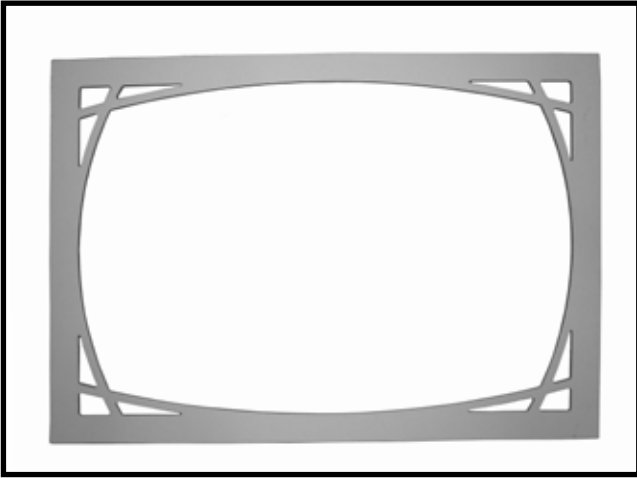
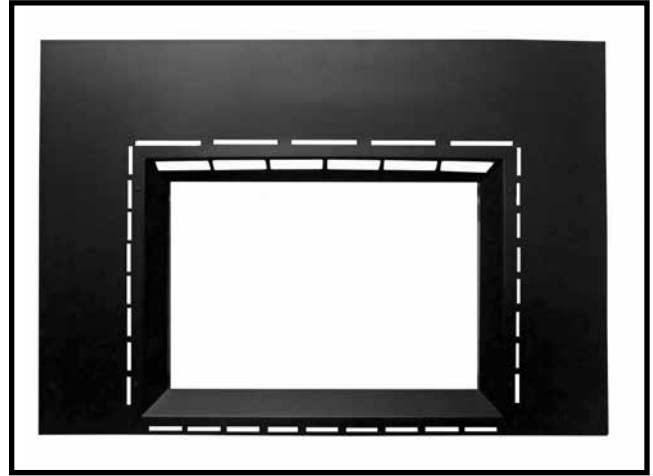

Figure 88: Decorative front.
Figure 89: Backing plate.
4. With the decorative front and backing plate (Figure 88 and Figure 89) removed, press the button marked “PRG” on the caddy and press the program button once (Figure 87). The module will beep 3 times indicating that it is ready to synchronize with the remote handset.